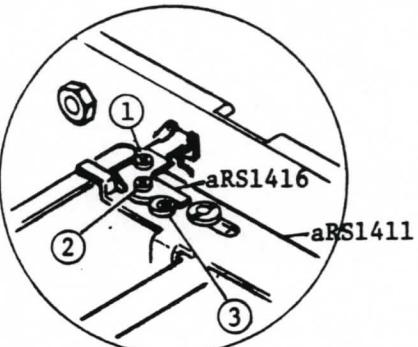
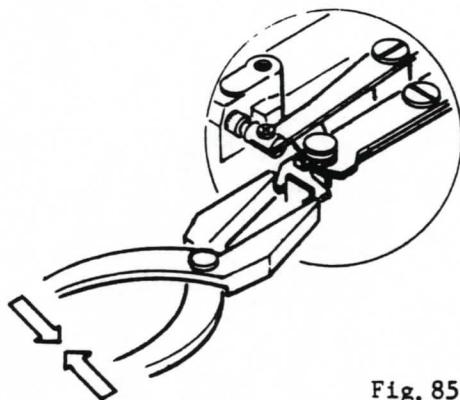

Fig.83
Fig.85
- (1) Loosen Set screw(1), (2) and (3) for Release plate supporter (aRS1416) fastened with Release plate (aRS1411) as shown in Fig. 83.
- (2) Insert Stop lever clearance gauge (aRS-13) into the lug of the body and Stop lever, then move Release plate supporter (aRS1416) so that the shutter button does not work.
- (3) Tighten Set screw(1) and (2)
- (4) Support Set screw(3) with Eccentric stopper (RS1545) and tighten it.
- (5) Check the clearance (1.7mm).
- (6) Apply Screw lock to Set screw(1), (2) and (3)
- (7) Use a pincers to tighten the edge of Sub lever (aRS1416) so as not leave gaps between the edge of sub lever and Release plate supporting (aRS1516) as shown in Fig. 85.